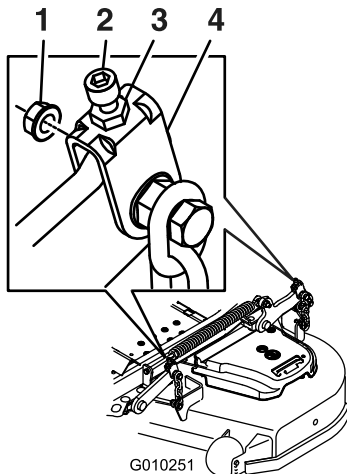

**Figure 83**
9. On both sides of the deck, measure from the level surface to the front tip of the blade (Position A). The measurement should read 3 inches (7.6 mm) (Figure 83).
15. On both sides of the deck, measure from the level surface to the back tip of the blade (Position B). The measurement should read 3 1/4 inches (8.3 cm) (Figure 83).